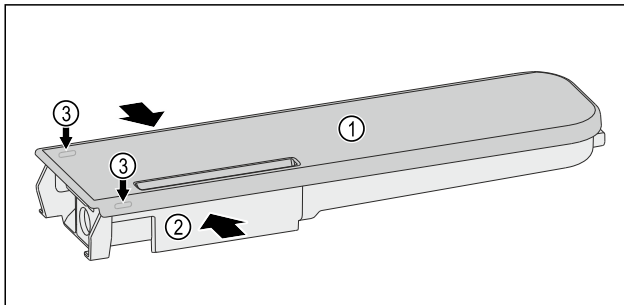

Fig. 152
- ▶ Push the water tanks *Fig. 152 (2)* together, leverage the cover *Fig. 152 (1)* carefully over the latching tabs *Fig. 152 (3)* and lift it up.
- ▶ Move the cover *Fig. 152 (1)* slightly forwards and back, and remove to the top.